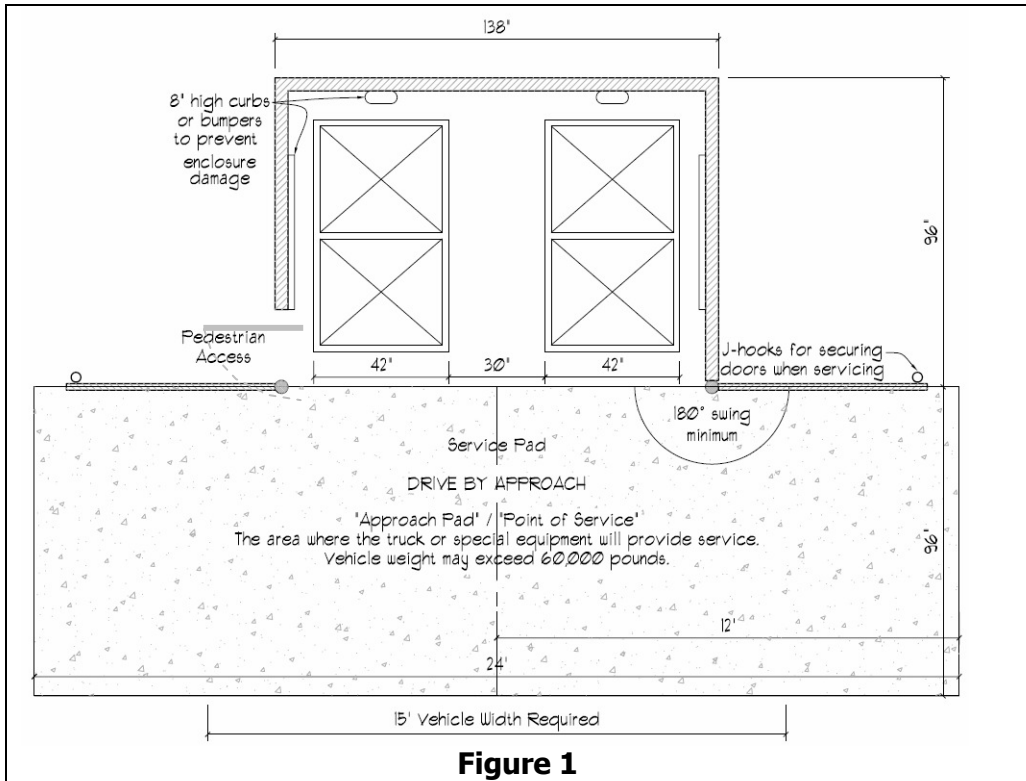
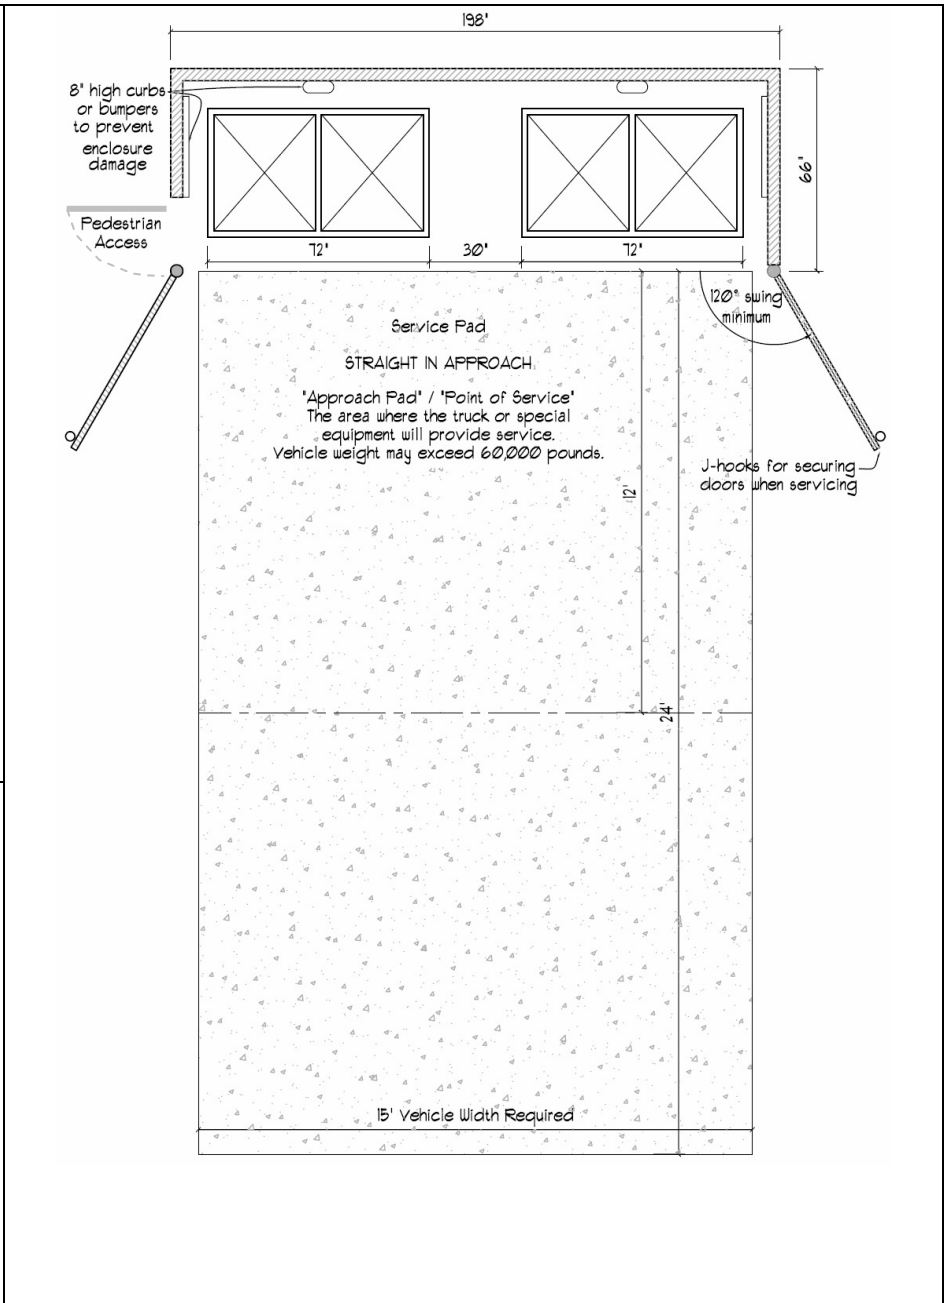

Figure 1
Figure 2 "Side by Side"
- The minimum enclosure area size to accommodate two 3 cu/yd bins (one for waste and one for recycling) facing each other is 11.5 feet by 8 feet with an additional 8 feet in front for the service pad (see **Figure 1**). A side-by-side configuration would require 16.5 wide by 5.5 deep, plus the 8 feet service pad in front (see **Figure 2 "Side by Side"**)